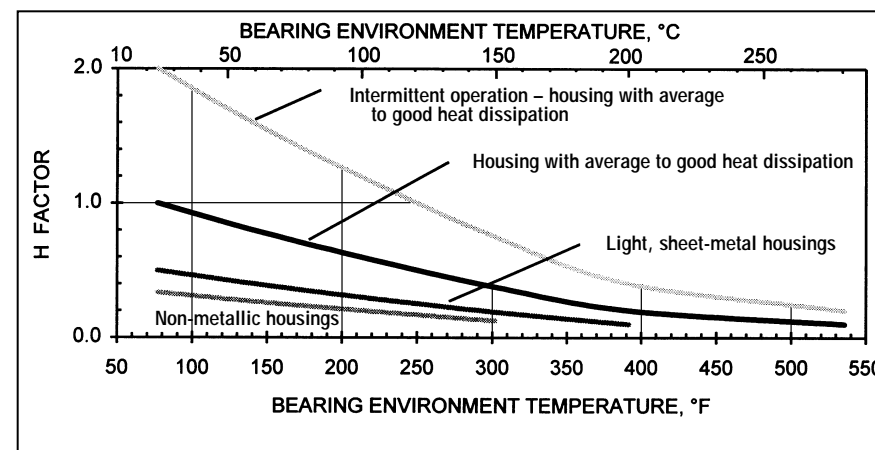

Figure 4-6. DU Heat Dissipation Factor - H for Dry Applications
- H = Heat dissipation factor, Figures 4-6 and 4-7
Liquids may substantially improve bearing performance if hydrodynamic conditions are established. Boundary lubrication performance will depend upon the nature of the liquid and testing should be conducted. In the absence of test data, the values in Figure 4-6 may be used. DU in lubricated environments is covered in detail on pages 4-11 to 4-13.